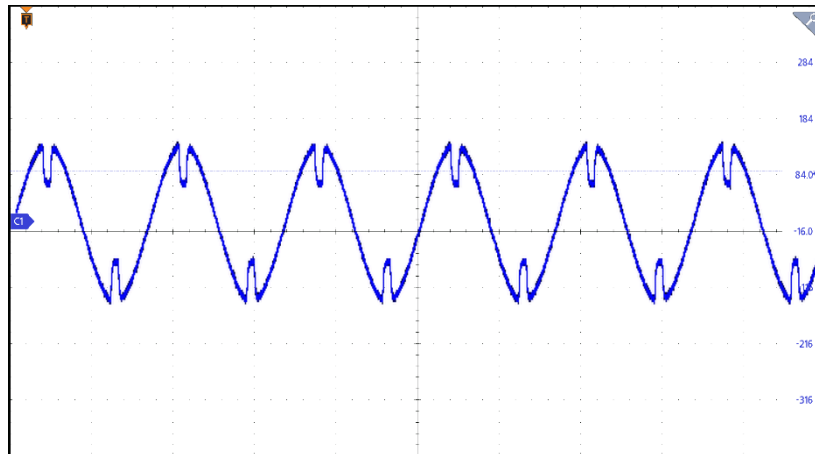

Figure 5-40 Transient Waveform Mode Setting Page (Example Output Waveform for Phase 1 – Sag)
8. After setting the parameters, tap the Home key , then tap  to trigger the output. The output waveform is shown in Figure 5-40.